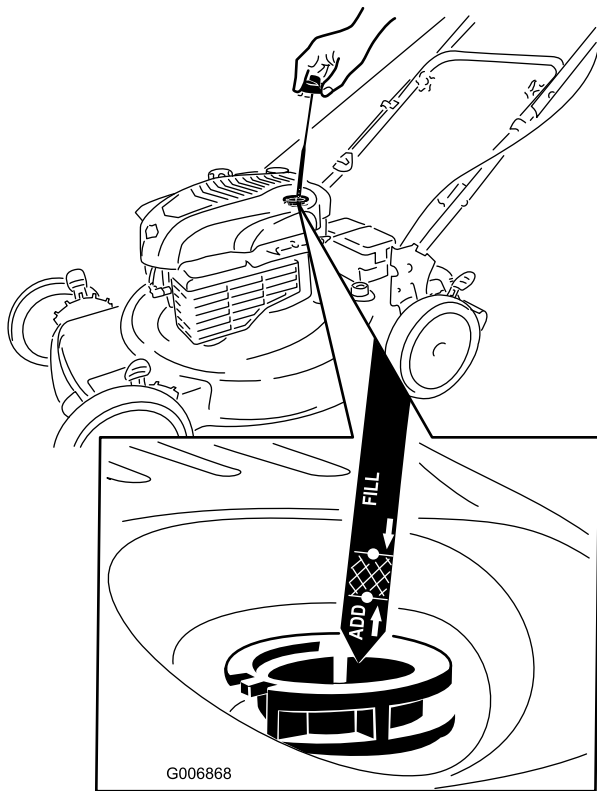

Figure 29
2. Remove the dipstick (Figure 29).
4. **Slowly** pour oil into the oil fill tube until the oil level reaches the **Full** line on the dipstick (Figure 29). **Do not overfill.** (Max. fill: 20 oz. (0.59 l), type: SAE 30 detergent oil with an API service classification of SF, SG, SH, SJ, SL, or higher.)